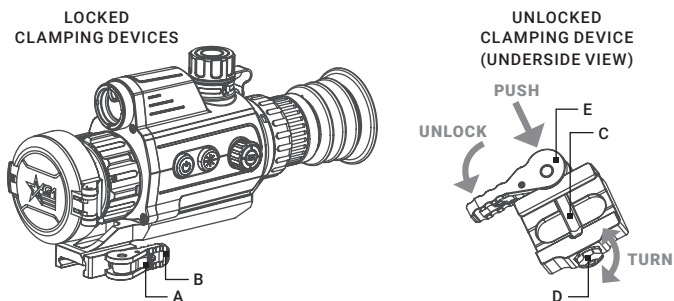

FIGURE 2-5. MOUNT
To install the VarmintV2 LRF with quick release mount to a Picatinny/Weaver rail, perform the following (Figure 2-5):
- With the clamping device unlocked (as shown in Figure 2-5), push the cam (E) towards the arrow, which will cause the nut (D) to slide out of its hole.
- To tighten/ loosen the clamping device, push down on the cam (E) and turn the nut (D) CW/ CCW respectively, in one-two increments (see note below). Much like when the cam (E) is released, backward-moving spring will cause the nut (D) to slide back into its hole.